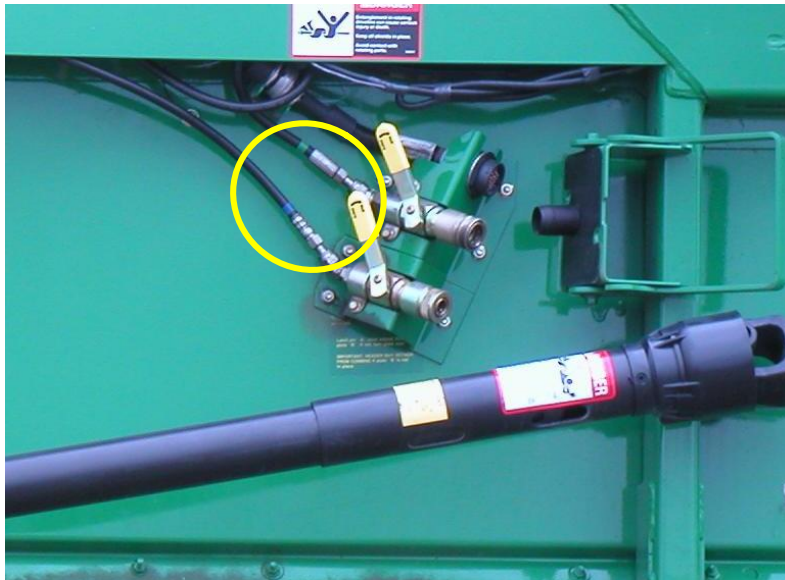

Figure 3
1. Route the reel aft hose, reel lift hose, and electrical connection, through the top beam. Leave enough exposed to connect to couplers. (See Figure 3)